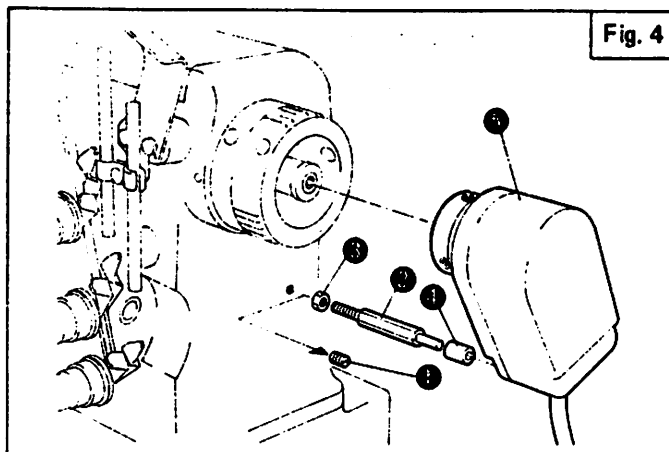

Fig. 4
POSITION DETECTOR (Fig. 4)
1. Remove Screw ①.
2. Refer to Fig. 4, and install ② and ③ in sequence.